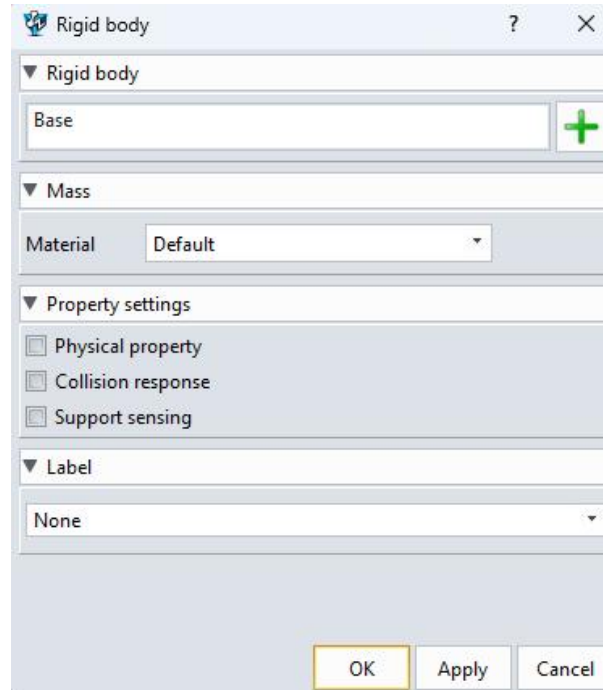

Figure 8-12: Rigid body parameters
- Property settings to 'Unchecked', and material to 'Default'. (Figure 8-12)